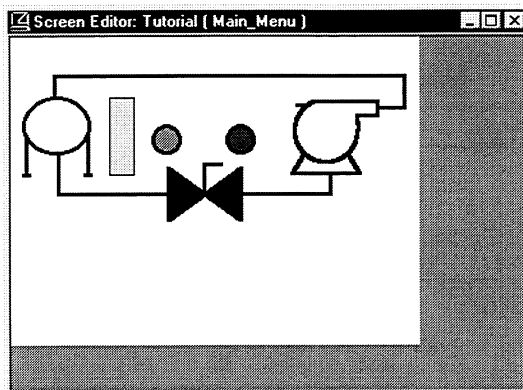

Figure 4-25. Adding a Rectangle to the Main\_Menu Screen
1. Return to the Main\_Menu screen, and draw a small rectangle next to the pressure storage vessel, above the horizontal valve, as shown in Figure 4-25.